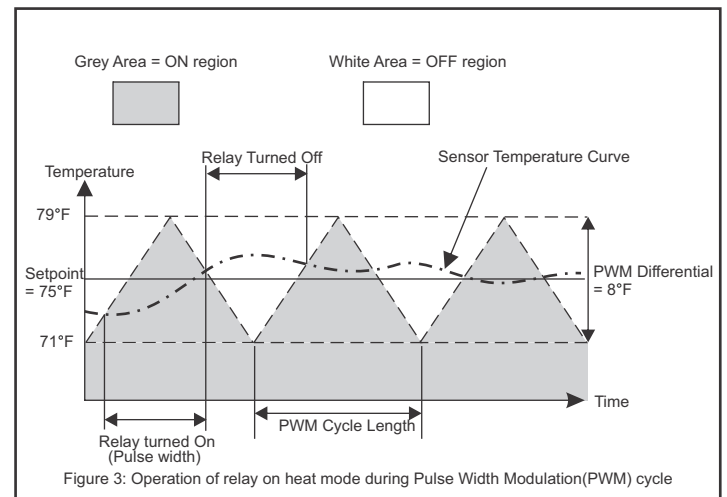

Figure 3: Operation of relay on heat mode during Pulse Width Modulation(PWM) cycle
Figure 3 shows the operation of relay on Heating Mode during PWM cycle:
- The principle of operation on Cooling Mode is the same with the shaded and white area reversed in Figure 3.